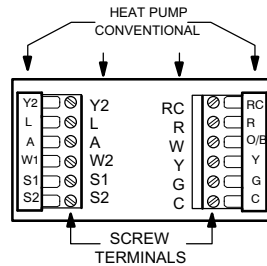

Figure 4. Terminal Identifications for System Type
1. Select conventional set of terminal identifications which correspond to the system type (conventional or heat pump (see figure 4)). Lennox commercial equipment does not use the heat pump system terminals.